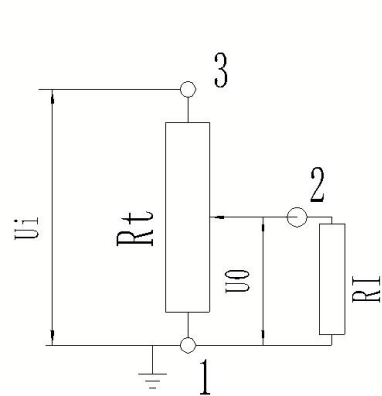
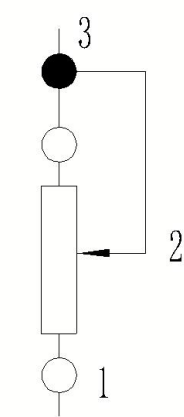

图1 作分压器(推荐)
图2 作变阻器(不推荐)
2、 最好能将电位器当作四端组件作为调整电压的分压器使用，且接线方式宜选择“1”端接地，同时电位器的负载电阻 R_I 应不小于电位器公称阻值 R_t 的 10 倍（见图 1）。除为了特别的设计需要，应避免将电位器当作二端组件作变阻器使用。因为电阻体与接触簧片之间的接触电阻不利于大电流通过，同时，由于仅使用了有效行程的一部分，如果动触点电流过大，可能造成局部过载而失效（见图 2）。
It is best to use the potentiometer as a four-end component as a voltage-adjusting divider, and the wiring method is appropriate to select "1" end ground, while the load resistance R_I of the potentiometer should be no less than 10 times the nominal resistance value of the potentiometer R_t (see Figure1). Except for special design needs, the potentiometer should be avoided as a variant resistor for a second-end component. Because the contact resistance between the resistor and the contact reed is not conducive to the passage of large currents, and because only a portion of the effective stroke is used, the active contact current may be too large and may fail due to local overload (see Figure2).